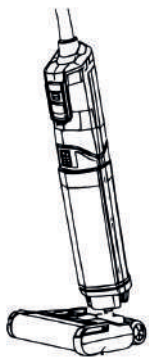

Fig. 11
2. Then press the left side of the brush roller downward until it fits into place and you hear a click, indicating that the roller has been properly installed (see Fig. 11).